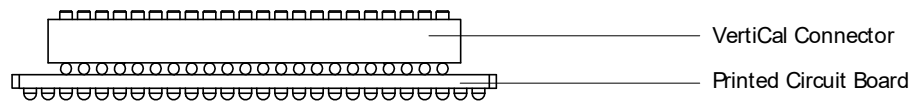

Fig. 4-3 VertiCal Base Board (fitted with Solder Balls, Side View)
- with solder ball footprints for direct and permanent soldered connection to the development ECU PCB (see Fig. 4-3) or